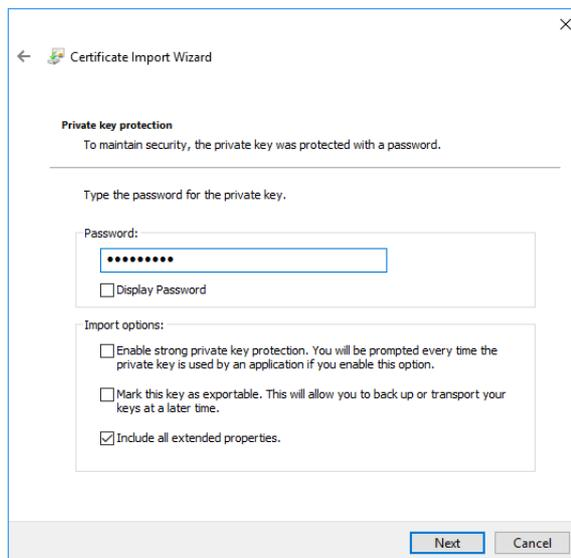

Figure 2-48. Entering password
6. Enter the password that you have specified during export, see Figure 2-48.